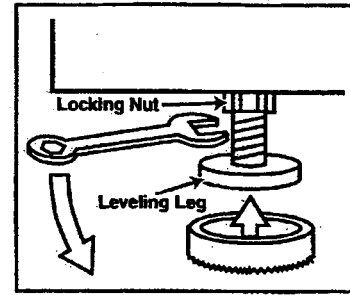

Figure 1-3
2. Tip washer slightly forward. Loosen rear leveling leg lock nuts. Tip washer back slightly to loosen front leveling leg lock nuts (*Figure 1-3*).
5. Install the rubber feet, found in the installation package, on all 4 legs (*Figure 1-3*).